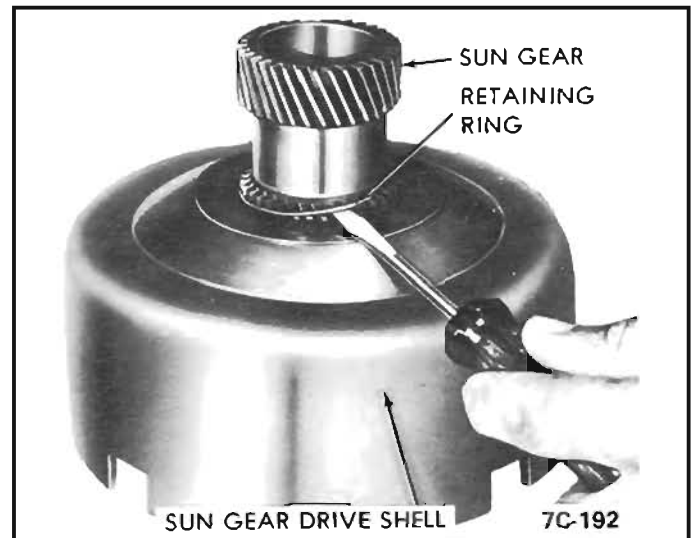

Figure 70 Sun Gear Retaining Ring Removal
1. Remove sun gear to sun gear drive shell rear retaining ring. See *Figure 70*.
2. Remove sun gear to drive shell flat rear thrust washer. See *Figure 70*.
3. Install sun gear to sun gear drive shell rear retaining ring. *See Figure 70.* Use a new ring and do not overstress when installing.